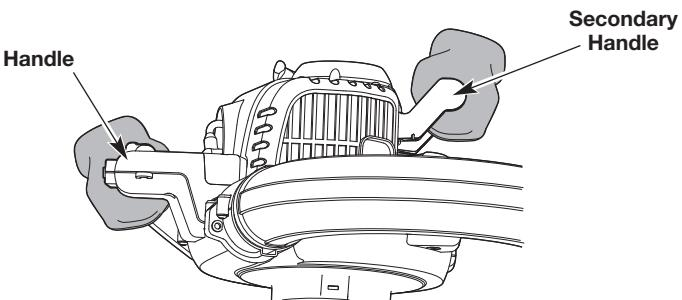

Fig. 9
- Hold the handle firmly with the right hand (Fig. 9). Hold the secondary handle firmly with the left hand (Fig. 9).